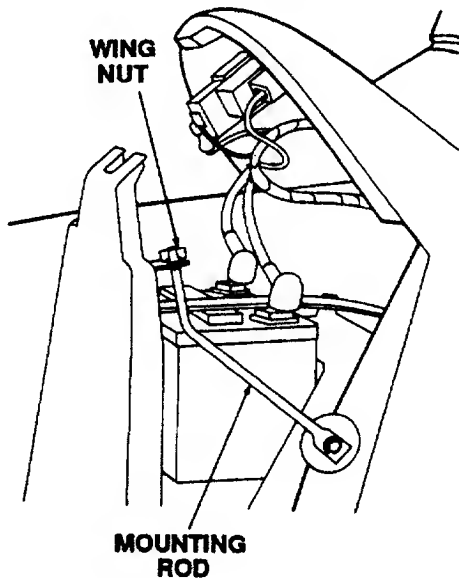

Figure 26
2. Remove the wing nut securing the mounting rod to the bulkhead mounting bracket. (Refer to Figure 26.)
8. Rotate the mounting rod fully downward below the bulkhead mounting bracket. (Refer to Figure 26.)